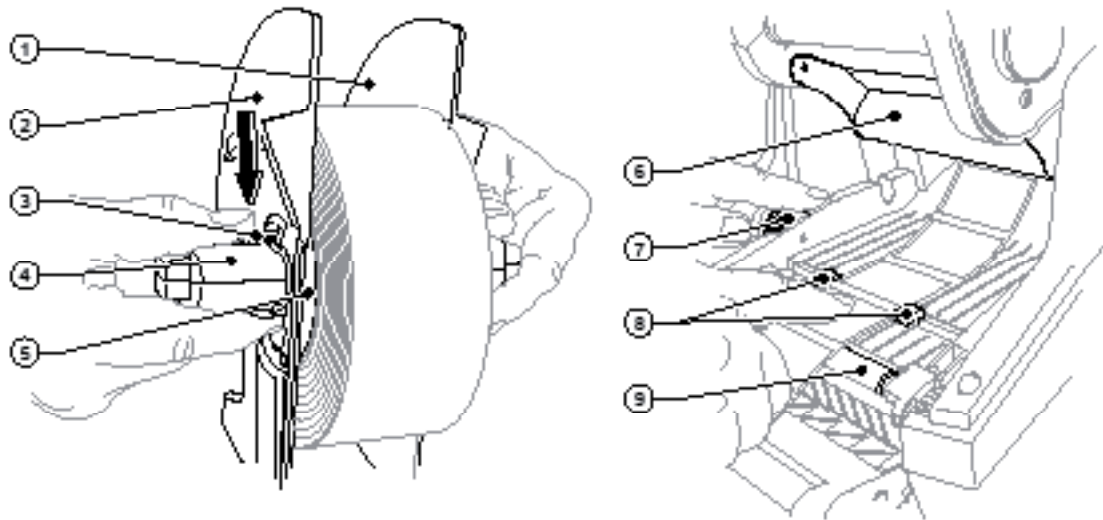

Fig. 4 Roll holder and path of the label stock
1. Stack the fan-folded labels (1) behind the printer. Ensure that the labels on the strip are facing upwards.
2. Open the cover and hinge down the control panel (5).
3. Feed the fan-folded labels (1) below the cover.
4. Adapting the roll hub (2) to the label width:
Take the roll hub (2) out of the holder slots (4) in the printer. Remove the adapter from the roll hub, ▷ item 4.1.1. Push down the lever (3 - fig. 4) and justify the edge stops 1 and 2 (2 - fig. 4) centrally on label width.
5. Place the roll hub back into the holder slots (4) on the printer. Ensure that the rounded surfaces of the edge stops are facing forward.
6. Feed the labels over the roll hub (2).
7. Press the release button (6) and hinge the print module up.
8. Feed the fanfold labels forwards under the deflector, (6 - fig. 4), and over the print roller, (9 - fig. 4), until it projects about 15 cm out of the printer.
9. Move the label guides (8 - fig. 4) outward with the setting wheel (7 - fig. 4) until the labels can pass between them. Press the strip label down with the hand, and move the label guides (8 - fig. 4) back up against the edges of the label.
10. Hinge the print module down and press evenly on the two marked surfaces (3) so that the unit snaps in on both sides.
11. For peel-off mode ▷ item 4.3.